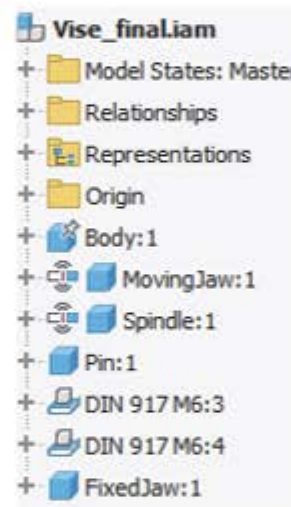

Figure 21–40
5. Which of the following components have been specified as members in a contact set, as shown in Figure 21–40? (Select all that apply.)